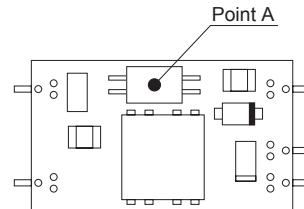

Fig.8.3 Temperature Measuring Point in the case of Forced Air Cooling
(3) Temperature Measuring Points in the case of Forced Air Cooling (1m/s)
① SU1R5
■ In the case of forced air cooling, please have sufficient ventilation to keep the temperature of point A in Fig.8.3 at 105°C or below.